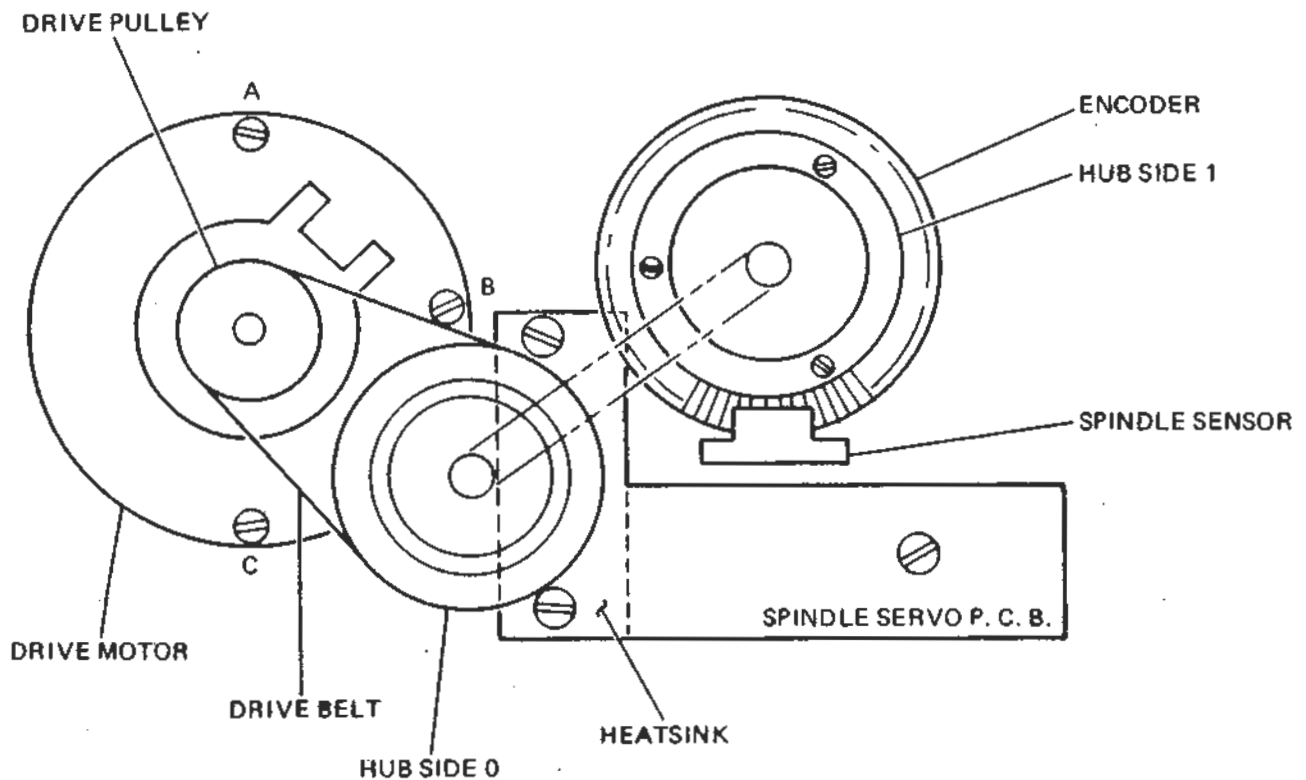

Figure 2-2. Drive System
The drive system comprises drive motor, belt, spindle sensor assembly, hub assembly and spindle servo electronics PCB. (Figure 2-2.)
- f. If the drive belt tracks too low, place a shim washer (PerSci Part No. 200081-001) between the drive motor and deck plate under Screw A. (Figure 2-2.)
- g. If the drive belt tracks too high, place shim washers (PerSci Part No. 200081-001) between the drive motor and deck plate under Screws B and C. (Figure 2-2), i. e. , one washer at each point.
- b. Loosen three motor mounting screws. (Figure 2-2.)
The spindle sensor assembly is located on Side 1 of the deck plate (Figure 2-2) adjacent to the hub encoder disc. To replace, proceed as follows:
- e. Remove two flat head screws above the spindle servo heatsink. (Figure 2-2.)
The Diskette spindle assembly consisting of two hubs, bearing housing, shaft, two bearings, encoder disc and clamp ring, is a replaceable assembly. (Figure 2-2.) If any part of this assembly is damaged, the whole assembly has to be replaced and the faulty assembly repaired at the factory or depot equipped to do such repairs.